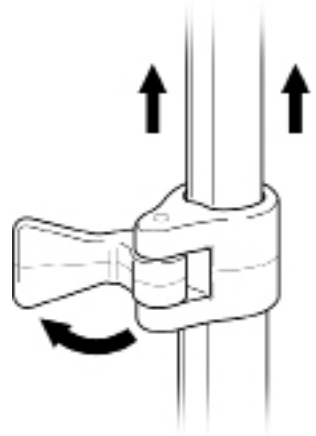

FIGURE 4
1. Release extension lock directly below SECTION 1 by swinging hinge outward as shown. SECTION 1 can then be extended / retracted (FIGURE 4).